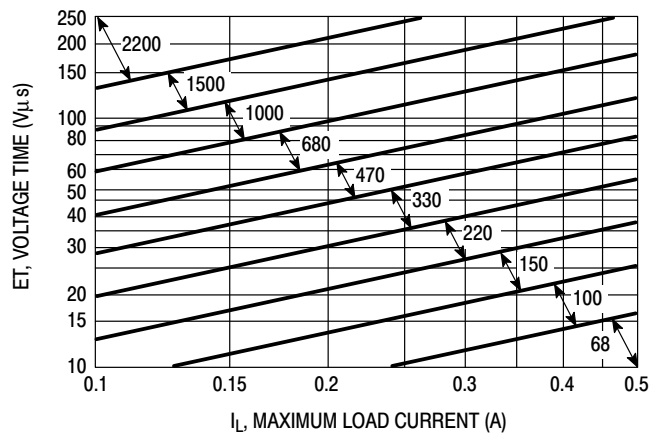

Figure 23. LM2574-ADJ
4. Inductor Selection (L1) A. Use the following formula to calculate the inductor Volt x microsecond [V x μs] constant: $E \times T = (V_{in} - V_{out}) \frac{V_{out}}{V_{in}} \times \frac{10^6}{F[\text{Hz}]} [V \times \mu\text{s}]$ B. Match the calculated E x T value with the corresponding number on the vertical axis of the Inductor Value Selection Guide shown in Figure 23. This E x T constant is a measure of the energy handling capability of an inductor and is dependent upon the type of core, the core area, the number of turns, and the duty cycle. C. Next step is to identify the inductance region intersected by the E x T value and the maximum load current value on the horizontal axis shown in Figure 27. D. From the inductor code, identify the inductor value. Then select an appropriate inductor from Table 2. The inductor chosen must be rated for a switching frequency of 52 kHz and for a current rating of $1.15 \times I_{Load}$. The inductor current rating can also be determined by calculating the inductor peak current: $I_{p(\text{max})} = I_{Load(\text{max})} + \frac{(V_{in} - V_{out})t_{on}}{2L}$ where t_{on} is the "on" time of the power switch and $t_{on} = \frac{V_{out}}{V_{in}} \times \frac{1.0}{f_{osc}}$ For additional information about the inductor, see the inductor section in the "External Components" section of this data sheet.	4. Inductor Selection (L1) A. Calculate E x T [V x μs] constant : $E \times T = (40 - 24) \times \frac{24}{40} \times \frac{1000}{52} = 105 [V \times \mu\text{s}]$ B. $E \times T = 185 [V \times \mu\text{s}]$ C. $I_{Load(\text{max})} = 0.4 \text{ A}$ Inductance Region = 1000 D. Proper inductor value = 1000 μH Choose the inductor from Table 2.